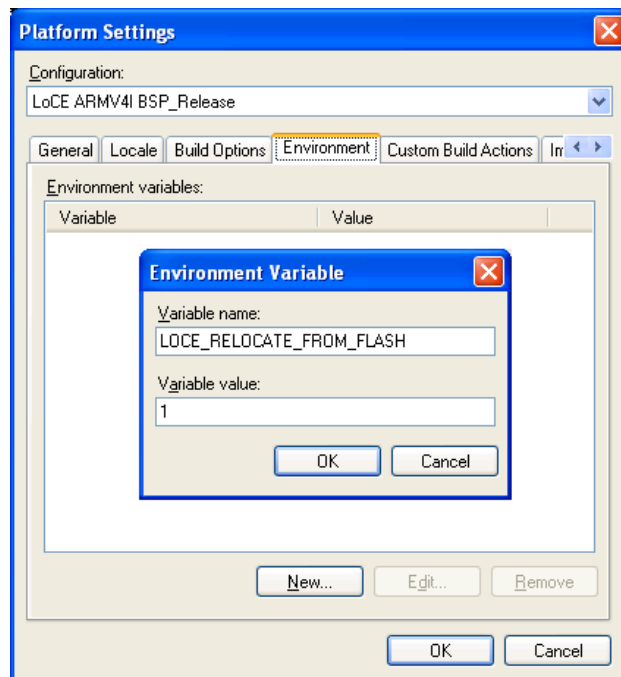

Figure 4.14: Building a Relocation Image
3. Click the "New..." button and enter the new environment variable "LOCE_RELOCATE_FROM_FLASH", as shown in Figure 4.14.